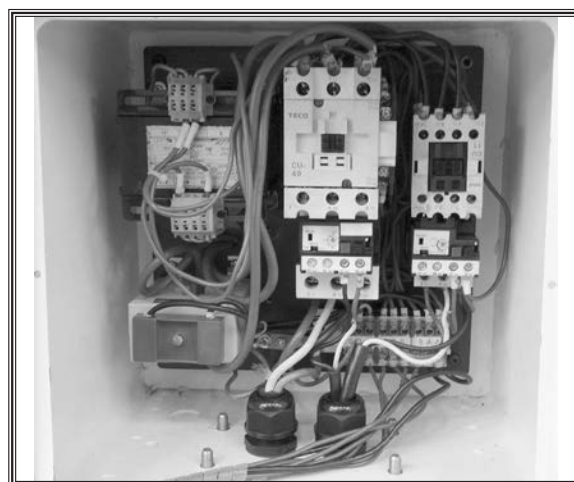

Figure 4. W1773 control box main panel, 3-phase 480V.
5. Remove and replace the existing control box 240V main panel with the 480V main panel from the 480V conversion kit (**Figure 4**).